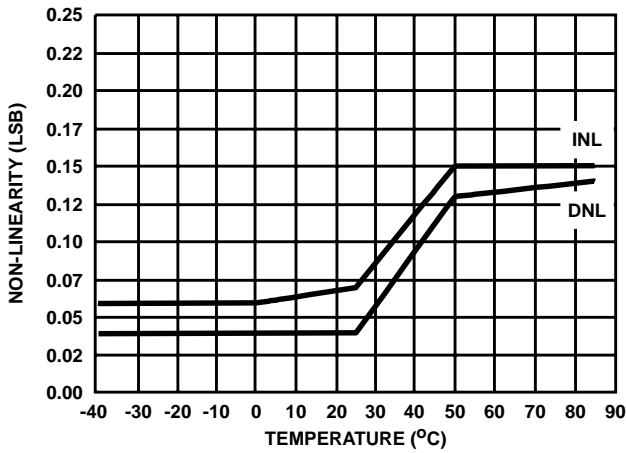

FIGURE 6. NON-LINEARITY vs TEMPERATURE
- The voltages listed are the ideal centers of each output code shown as a function of its associated reference voltage See Ideal Transfer Curve Figure 6. The output code should exist for an input equal to the ideal center voltage  $\pm 1/2$  of the step size.